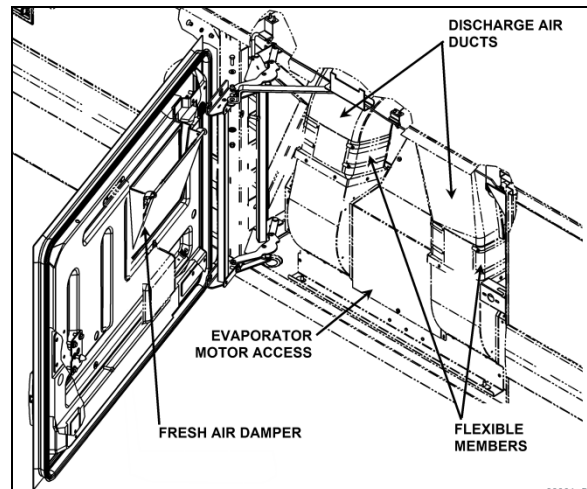

FIGURE 68: X3 SERIES PASSENGERS' AREA FRESH AIR DAMPER
- X3 Series - On the evaporator compartment door (Figure 68).